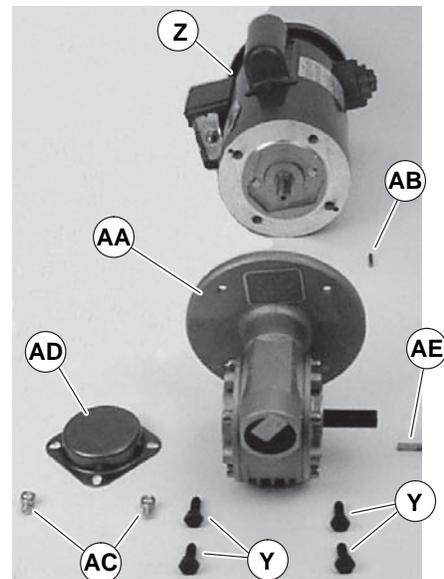

Figure 22
5. Remove four screws (Figure 22, item Y). Detach motor (Z) from gear reducer (AA). Retain motor output shaft key (AB).
- With key (Figure 22, item J) in keyway, slide motor (Z) and gear reducer (AA) together. Install screws (Y) and tighten.